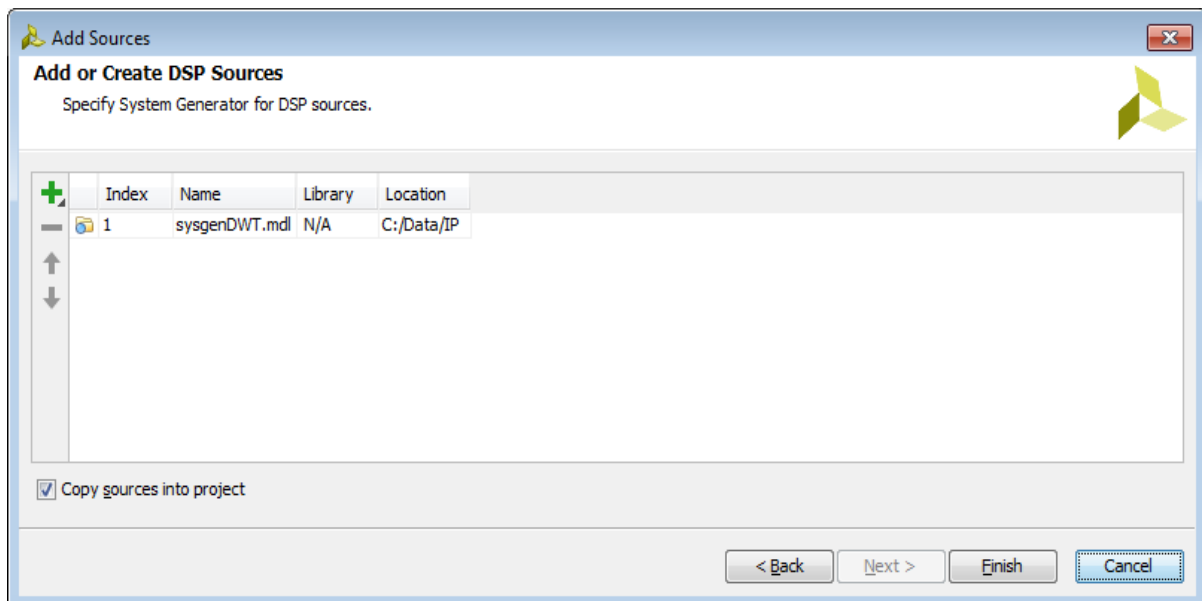

Figure 3-15: **Add Sources Wizard—Add or Create DSP Sources dialog box**
3. In the Add or Create DSP Sources page (Figure 3-15), set the following options, and click **Finish**.
3. In the Add or Create DSP Sources page (Figure 3-15, page 66), Click on the '+' sign, and select the **Create Sub-Design** command to launch System Generator to define a new DSP module.